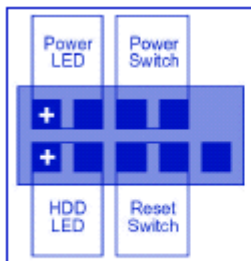

Figure 7
(15) The last thing to do is to connect the power switch, reset switch, HDD LED and Power LED. These are connected to a 9pin header on the motherboard. An example of how one is wired is shown in Figure 7. This can vary from what is shown below so if in doubt please consult your manual for correct wiring and location on your board.